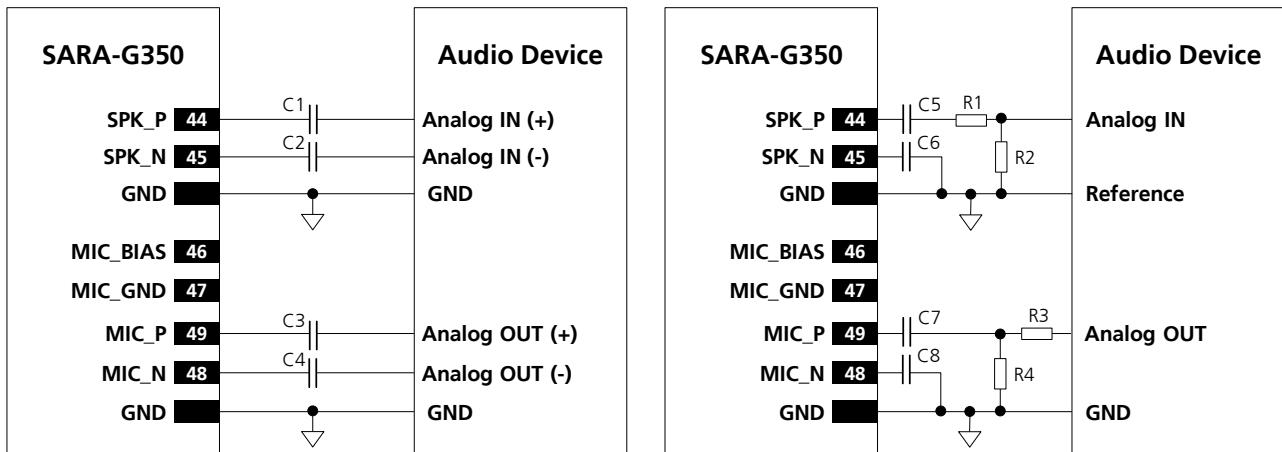

Figure 56: Application circuits to connect the module to audio devices with proper differential or single-ended input/output
Figure 56 and Table 35 describe the application circuits, following the suggested circuit design-in.
- The **SPK\_P / SPK\_N** balanced output of the module must be connected to the differential input of the external audio device by means of series capacitors for DC blocking (e.g. 10  $\mu$ F Murata GRM188R60J106M) to decouple the bias present at the module output, as described in the left side of Figure 56
- A proper differential to single ended circuit must be inserted from the **SPK\_P / SPK\_N** balanced output of the module to the single ended input of the external audio device, as described in the right side of Figure 56: 10  $\mu$ F series capacitors (e.g. Murata GRM188R60J106M) are provided to decouple the bias present at the module output, and a voltage divider is provided to properly adapt the signal level from the module output to the external audio device input
- The **MIC\_P / MIC\_N** balanced input of the module must be connected to the differential output of the external audio device by means of series capacitors for DC blocking (e.g. 10  $\mu$ F Murata GRM188R60J106M) to decouple the bias present at the module input, as described in the left side of Figure 56
- A proper single ended to differential circuit has to be inserted from the single ended output of the external audio device to the **MIC\_P / MIC\_N** balanced input of the module, as described in the right side of Figure 56: 10  $\mu$ F series capacitors (e.g. Murata GRM188R60J106M) are provided to decouple the bias present at the module input, and a voltage divider is provided to properly adapt the signal level from the external audio device output to the module input
- The signal levels can be adapted by setting gain using AT commands (refer to the u-blox AT Commands Manual [2], +USGC, +UMGC), but additional circuitry must be inserted if the **SPK\_P / SPK\_N** output level of the module is too high for the input of the audio device or if the output level of the audio device is too high for **MIC\_P / MIC\_N**, as the voltage dividers present in the circuits described in the right side of Figure 56 to properly adapt the signal level